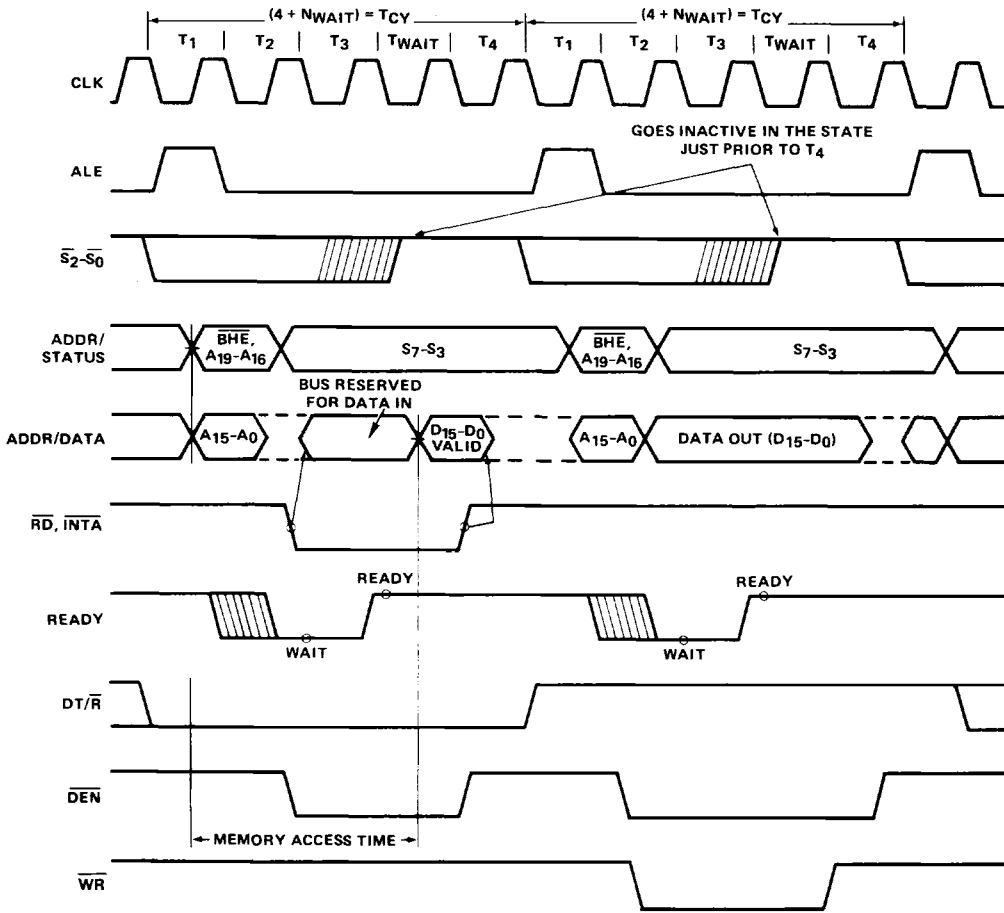
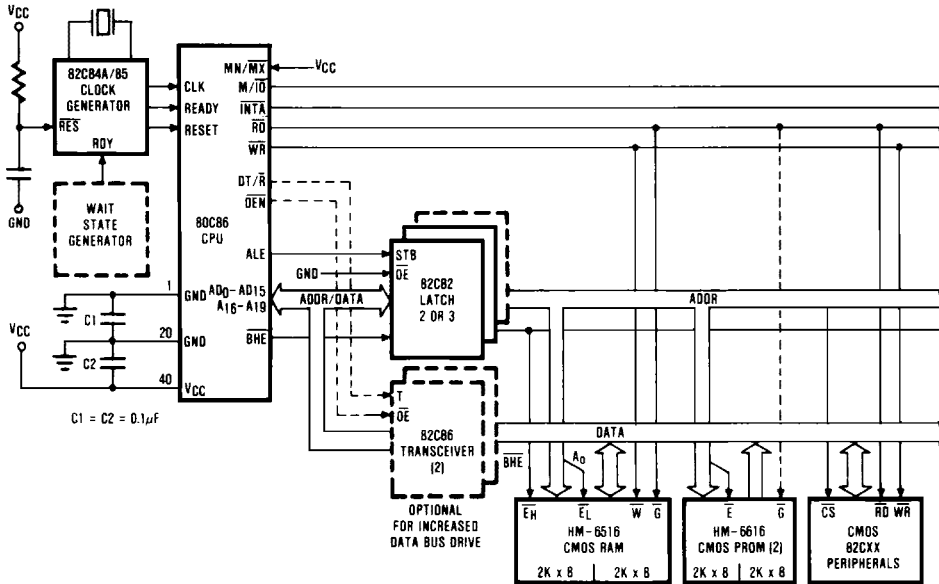

FIGURE 3. BASIC SYSTEM TIMING
FIGURE 6A. MINIMUM MODE 80C86 TYPICAL CONFIGURATION
Each processor bus cycle consists of at least four CLK cycles. These are referred to as T1, T2, T3 and T4 (see Figure 3). The address is emitted from the processor during T1 and data transfer occurs on the bus during T3 and T4. T2 is used primarily for changing the direction of the bus during read operations. In the event that a "NOT READY" indication is given by the addressed device, "Wait" states (TW) are inserted between T3 and T4. Each inserted wait state is the same duration as a CLK cycle. Periods can occur between 80C86 driven bus cycles. These are referred to as "idle" states (TI) or inactive CLK cycles. The processor uses these cycles for internal housekeeping and processing.
Typical system configurations for the processor operating in minimum mode and in maximum mode are shown in Figures 6A and 6B, respectively. In minimum mode, the MN/MX pin is strapped to VCC and the processor emits bus control signals (e.g. RD, WR, etc.) directly. In maximum mode, the MN/MX pin is strapped to GND and the processor emits coded status information which the 82C88 bus controller uses to generate MULTIBUS™ compatible bus control signals. Figure 3 shows the signal timing relationships.